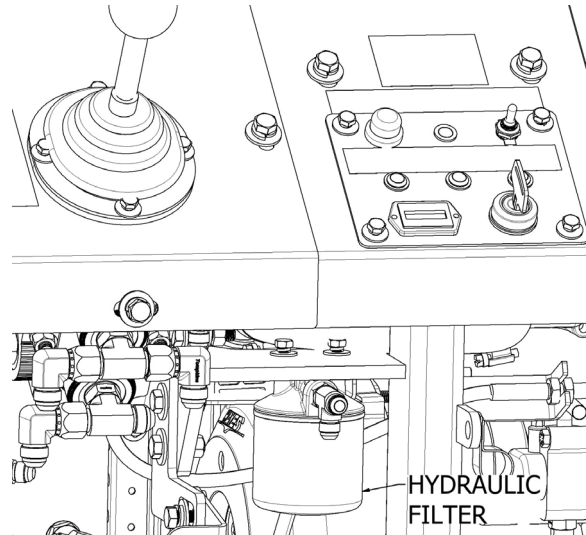

Figure 5.3 – Hydraulic Filter
1. Locate the hydraulic filter. See Figure 5.3. Change according to the maintenance schedule at the beginning of the chapter or if it has been over heated or contaminated.